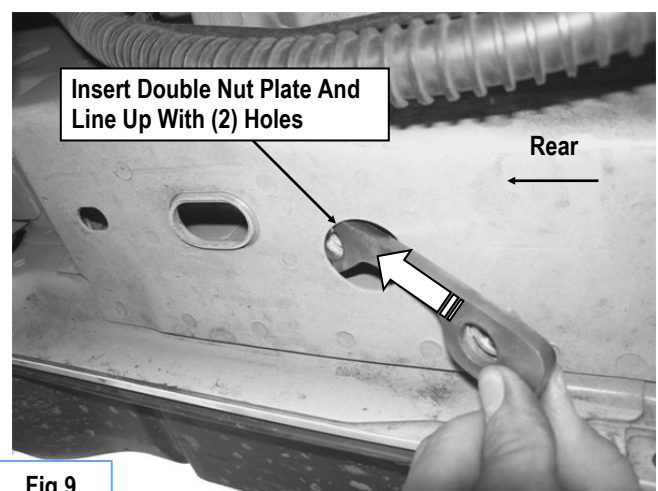

Fig 9
Insert (1) M10X1.5 Double Nut Plate through the large round hole and line up the threaded nuts on the M10X1.5 Double Nut Plate with the smaller round and oval holes, (Fig 9).